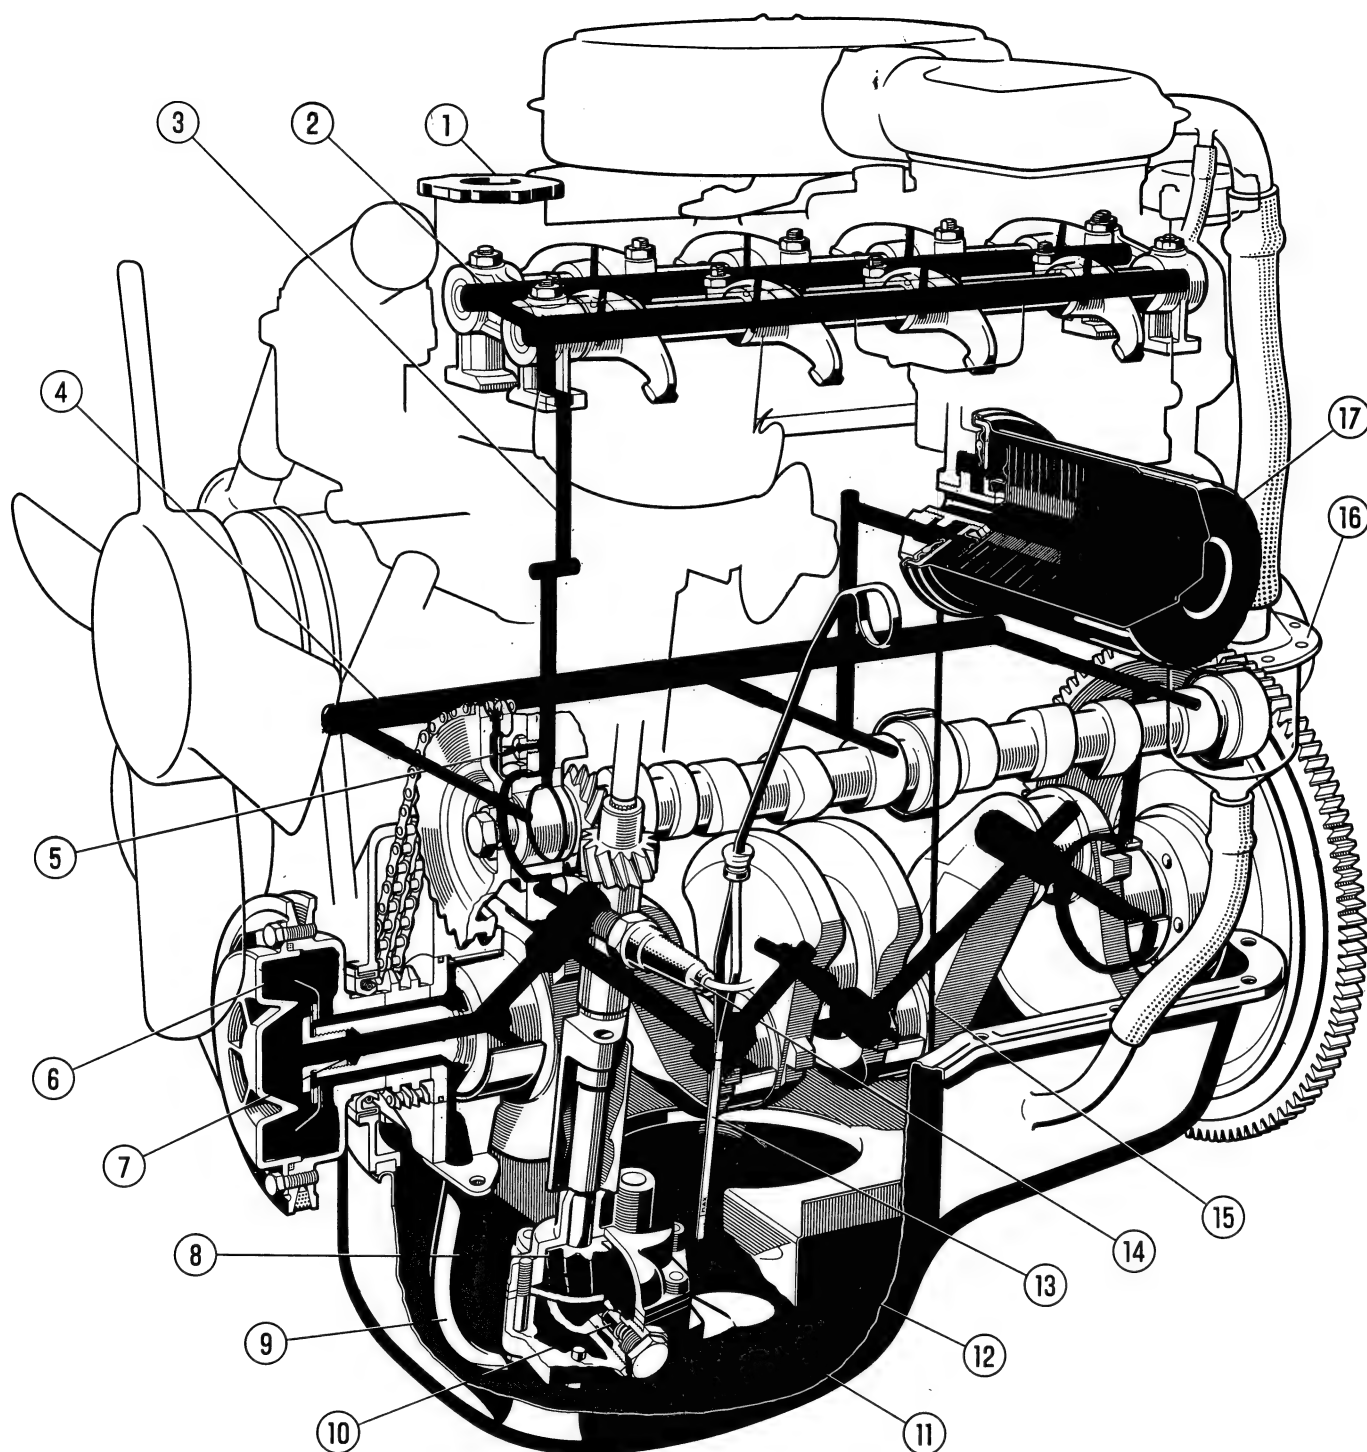

Fig. 71. - Cut-away and phantom view of 115 C.005 engine lubrication system.
- a centrifugal delivery oil filter (6, fig. 71);
- a by-pass, supplementary oil filter (17), mounted on engine left side;
- an oil pressure relief valve (10) on pump cover;
- a low pressure indicator sending unit (14).